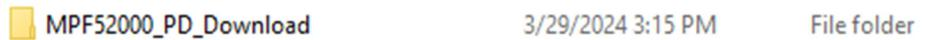

Figure 11: MPF52000_PD_Download Folder
- b. The folder MPF52000_PD_Download includes the PD firmware download templates (see Figure 11).